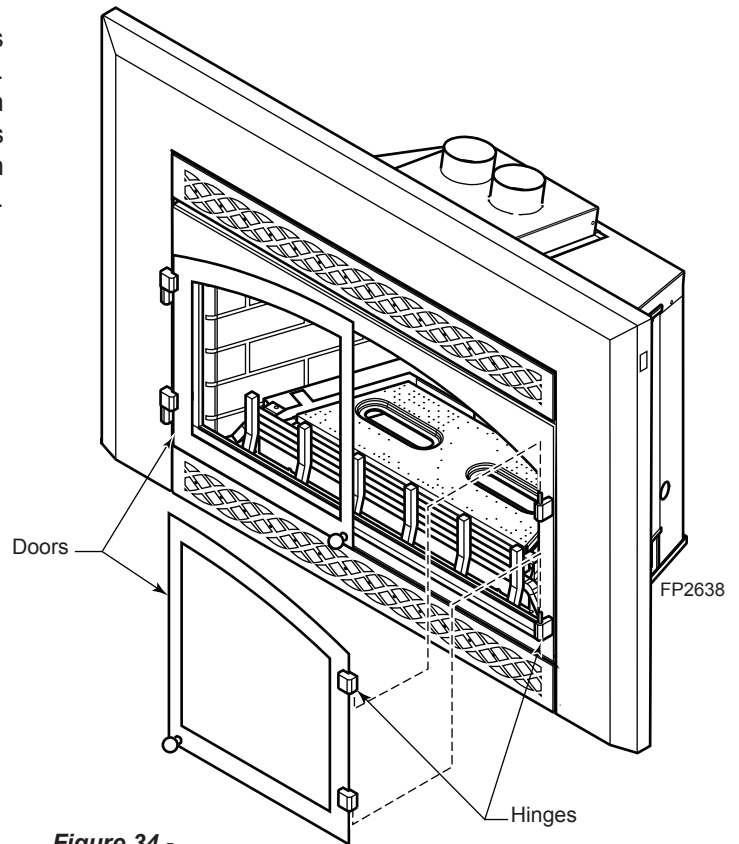

Figure 34 - Install Doors
2. Slide top filigree panel on to four (4) shoulder screws located on the top of the surround. Slide bottom filigree panel on to four (4) shoulder screws located on the bottom of the surround. *Figure 34*